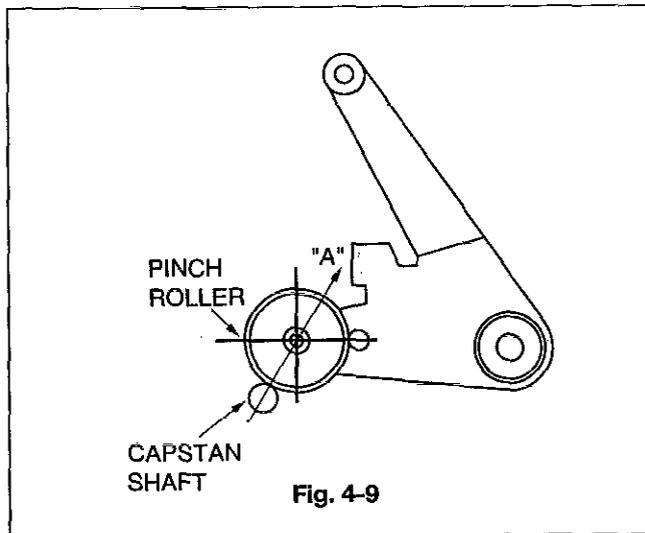

Fig. 4-9
- 3) Pull the push-pull gauge to the direction 'A' indicated by the arrow as shown in Fig. 4-9.